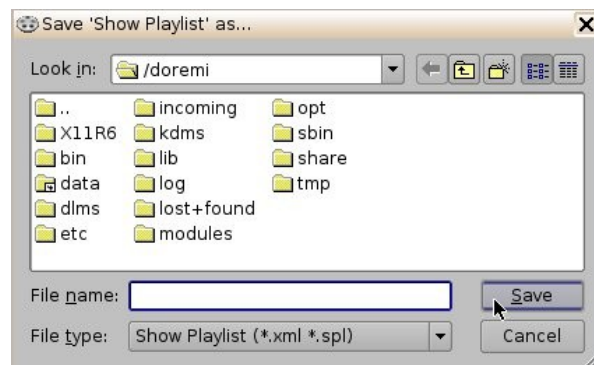

Figure 165: Browse Filepath Window
- Click the Import button. The Browse Filepath window will appear (Figure 165).